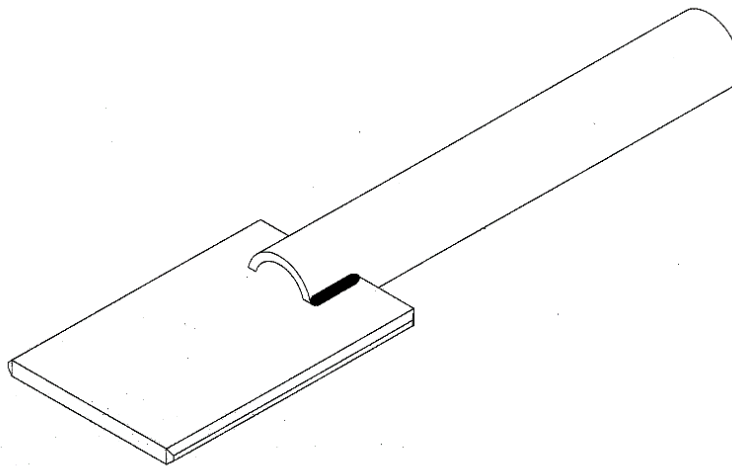

Figure 8 - GEOKON Coupling Tool
| FIGURE 8 - GEOKON COUPLING TOOL..... | 10 |
- 3) Slide the GEOKON repair coupling onto the casing and align the grooves using the GEOKON Coupling Tool (Figure 8). Allow the cement to cure, according to the directions on the label.